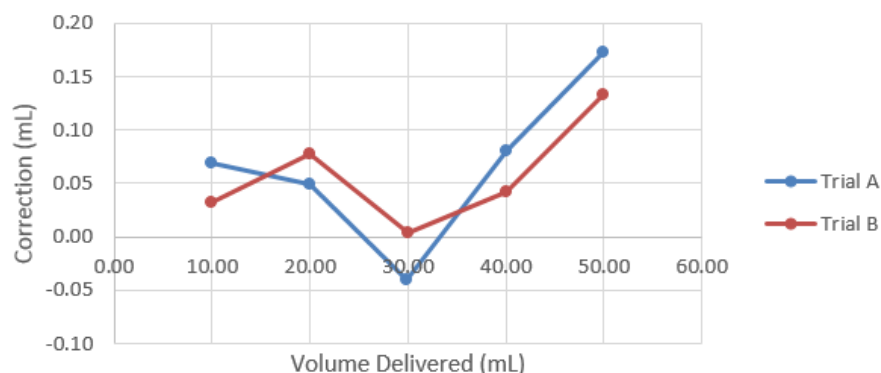

Figure 1. Plot of the error in predicting the volume dispensed as a function of the total volume.
- Discuss the volume of greatest uncertainty for the buret. Did you have the most uncertainty when trying to dispense 10, 20, 30, 40, or 50 mL? For example, in Figure 1, the data suggest this buret is very inaccurate at dispensing 50 mL but is accurate at dispensing 30 mL.